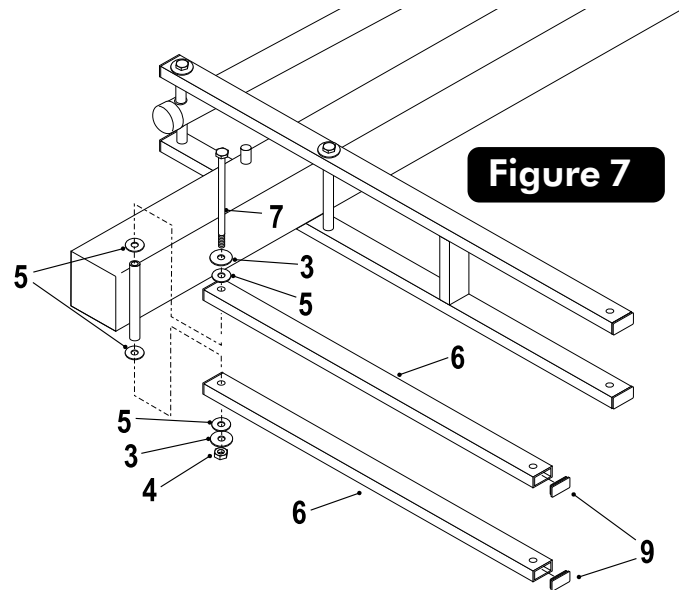

Figure 7
- Attach Upper Arms (#6) to Pole (#2), as shown in Figure 7, using a bolt (#7), two flatwashers (#3), four plastic washers (#5) and one hex nut (#4).